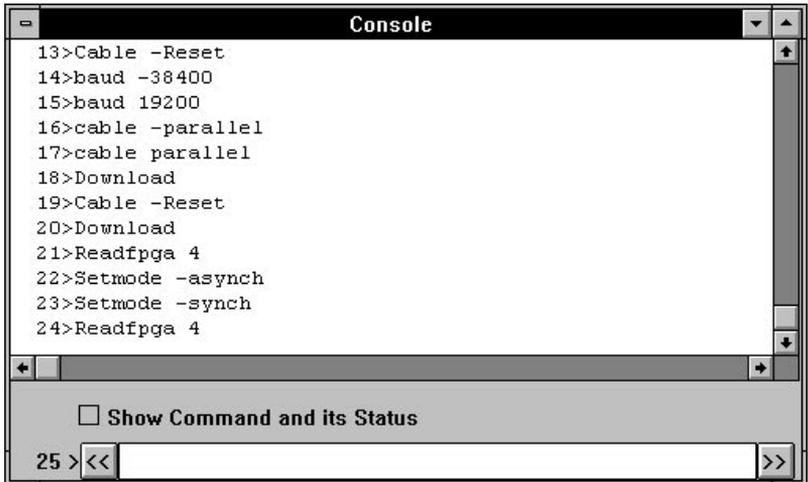

Figure 7-2 Console Window
3. The Console window is displayed as shown in Figure 7-2.